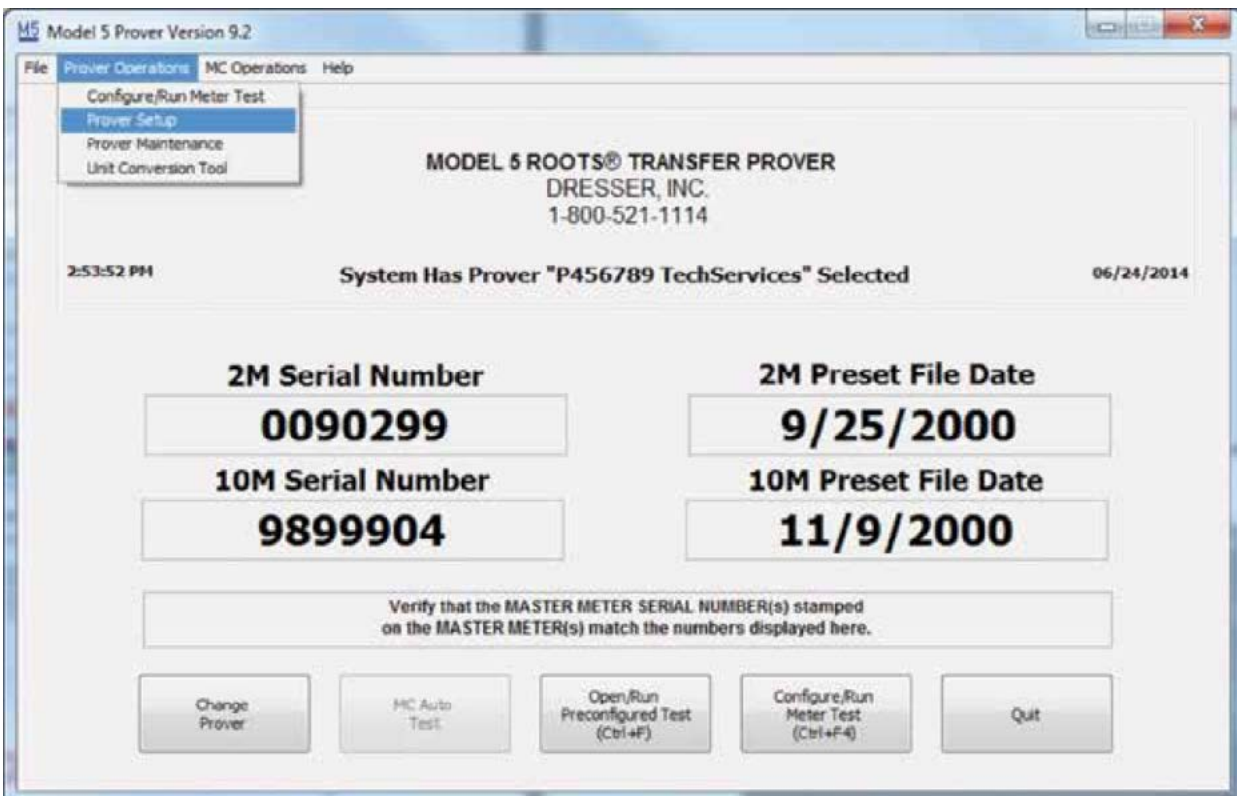

Figure 22: Prover Setup Selection
1. From “Prover Operations”, select “Prover Set Up” as shown in Figure 22.